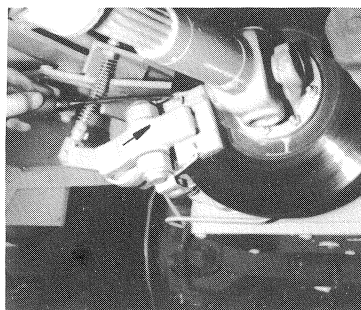

Fig. 56
- (1) Release parking brake.
- (2) Remove the locking springs from the brake pad by means of mounting spoon (Fig. 56/arrow).